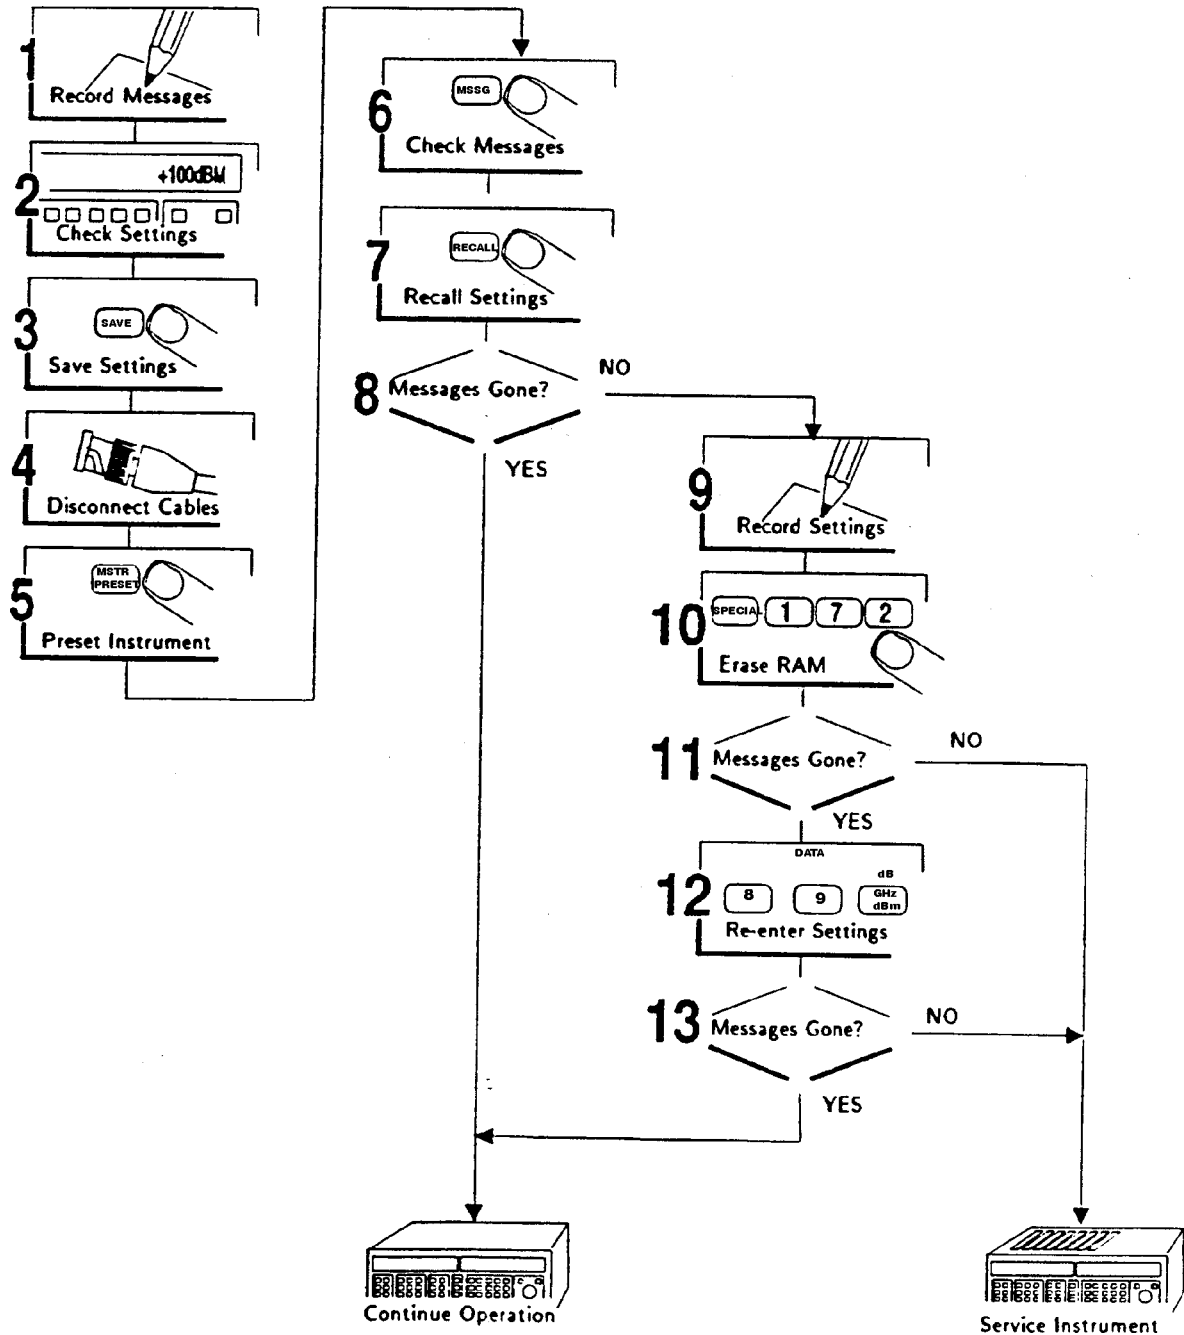

Figure 1. Corrective Action for Error Messages
Hardware Failure 1	A communications discriminator failure has been detected at power up, or detected as a result of a self-calibration or self-test. Refer to Figure 1 for corrective action.
Hardware Failure 2	A VCO failure has been detected at power up, or detected as a result of a self-calibration or self-test. Refer to Figure 1 for corrective action.
Hardware Failure 3	A Fractional-N failure has been detected at power up, or detected as a result of a self-calibration or self-test. Refer to Figure 1 for corrective action.
Hardware Failure 4	A modulation distribution failure has been detected at power up, or detected as a result of a self-calibration or self-test. Refer to Figure 1 for corrective action.
Hardware Failure 5	An ALC failure has been detected at power up, or detected as a result of a self-calibration or self-test. Refer to Figure 1 for corrective action.
Hardware Failure 6	An attenuator failure has been detected at power up, or detected as a result of a self-calibration or self-test. Refer to Figure 1 for corrective action.
Hardware Failure 7	An audio source failure has been detected at power up, or detected as a result of a self-calibration or self-test. Refer to Figure 1 for corrective action.
Hardware Failure 8	A reference failure has been detected at power up, or detected as a result of a self-calibration or self-test. Refer to Figure 1 for corrective action.
Hardware Failure 9	A doubler failure has been detected at power up, or detected as a result of a self-calibration or self-test. Refer to Figure 1 for corrective action.
Hardware Failure 10	A High Frequency Output Section failure has been detected at power up, or detected as a result of self-calibration or self-test. Refer to Figure 1 for corrective action.
Hardware Failure 11	A Low Frequency Output Section failure has been detected at power up, or detected as a result of self-calibration or self-test. Refer to Figure 1 for corrective action.
Hardware Failure 12	A Microwave Extender Automatic-Level-Control (ALC) out-of-lock (OOL) condition occurred. Refer to Figure 1 for corrective action.
Hardware Failure 13	A front panel failure has been detected at power up, or detected as a result of a self-calibration or self-test. Refer to Figure 1 for corrective action.
Hardware Failure 14	A power supply failure has been detected at power up, or detected as a result of a self-calibration or self-test. Refer to Figure 1 for corrective action.
Hardware Failure 15	An I/O board failure has been detected at power up, or detected as a result of a self-calibration or self-test. Refer to Figure 1 for corrective action.
Hardware Failure 16	A controller failure has been detected at power up, or detected as a result of a self-calibration or self-test. Refer to Figure 1 for corrective action.
Hardware Failure 17	A Pulse Modulator failure has been detected at power up, or detected as a result of a self-calibration or self-test. Refer to Figure 1 for corrective action.
Hardware Failure 18	A frequency counter failure has been detected at power up, or detected as a result of a self-calibration or self-test. Refer to Figure 1 for corrective action.
Hardware Failure 21	A communications discriminator out-of-lock (OOL) condition exists. Refer to Figure 1 for corrective action.
Hardware Failure 22	A VCO out-of-lock (OOL) condition exists. Refer to Figure 1 for corrective action.
Hardware Failure 23	A Fractional-N (NF) phase-locked-loop (PLL) out-of- lock (OOL) condition exists. Refer to Figure 1 for corrective action.
Hardware Failure 24	A VCO frequency-locked-loop (FLL) out-of-lock (OOL) condition exists. Refer to Figure 1 for corrective action.
Hardware Failure 25	A VCO phase-locked-loop (PLL) out-of-lock (OOL) condition exists. Refer to Figure 1 for corrective action.
Hardware Failure 26	A fast controller failure has been detected at power up, or detected as a result of a self-calibration or self-test. Refer to Figure 1 for corrective action.
Hardware Failure 27	An audio source out-of-lock (OOL) condition exists. Refer to Figure 1 for corrective action.
Hardware Failure 28	A reference out-of-lock (OOL) condition exists. Refer to Figure 1 for corrective action.
Hardware Failure 30	A High Frequency Output Section Automatic-Level-Control (ALC) out-of-lock (OOL) conditon occurred. Refer to Figure 1 for corrective action
Hardware Failure 31	A ROM failure has been detected at power up, or detected as a result of a self-calibration or self-test. Refer to Figure 1 for corrective action.
Hardware Failure 32	A ROM failure has been detected at power up, or detected as a result of a self-calibration or self-test. Refer to Figure 1 for corrective action.
Hardware Failure 33	A ROM failure has been detected at power up, or detected as a result of a self-calibration or self-test. Refer to Figure 1 for corrective action.